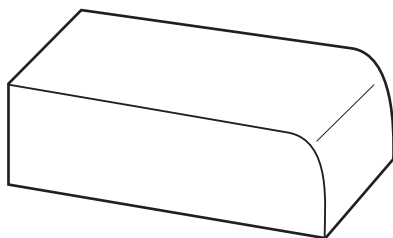

Figure 5.3 Bull-nosed brick.
- ▶ **Special bricks** are so called because they are made to fulfil a specific task. An example of a special is a bull-nosed brick (see Figure 5.3). This type of brick is used, for example, to finish off the top of a wall or to make a windowsill. Other commonly used specials include plinth bricks, copings and arch keystones. Brick companies can make a brick into almost any shape that’s required, at a price.